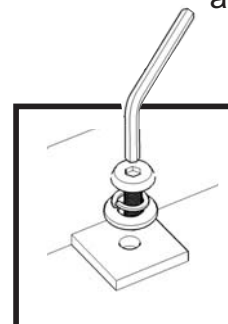

Figure 3
Attach Shelves (D) to unit with Flat Washers, Spring Washers and Head Cap Bolts. (See Figure 3)